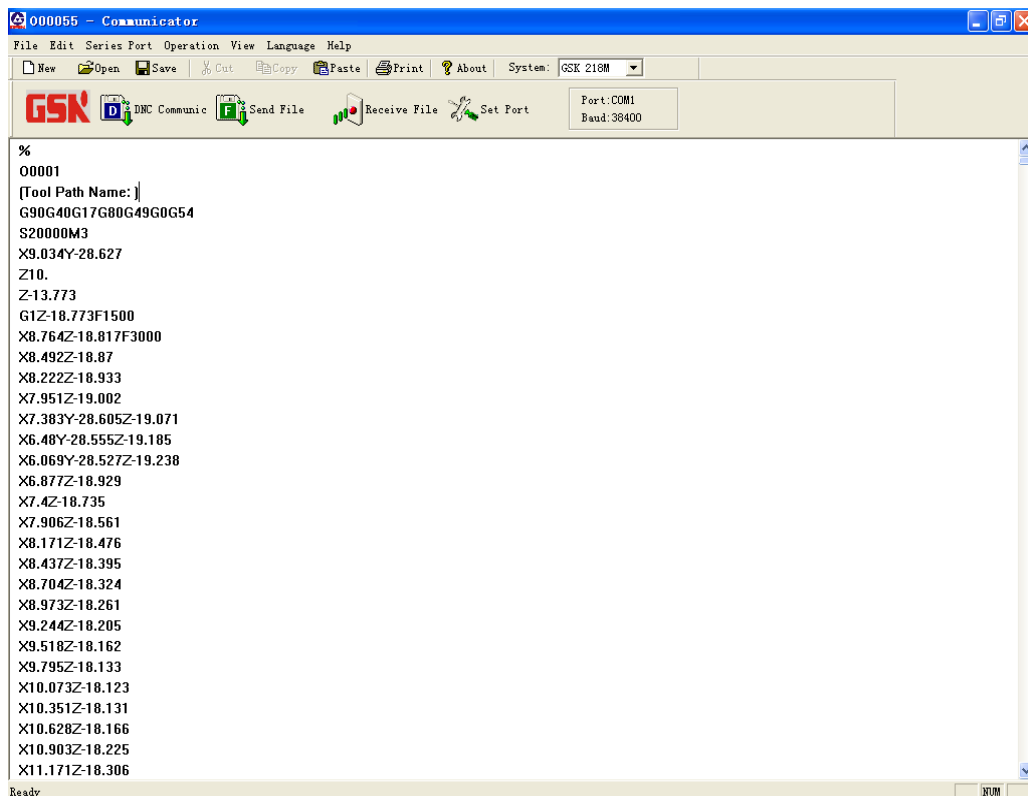

Fig. 11-1-4-1
3. Open the CNC program file. The program file can be opened by the “Open” button on the file menu or the  button on tool bar, refer to the Fig. 11-1-4-1 (Further edit the program file to the series port communication software).
4. DNC transmission. The data delivers by clicking the  on tool bar or the “DNC transmission” on the “Transmission mode” drop-down menu. When the system I/O channel sets to 0, PC directly delivers with PC common-use method; in this case, the DNC transmission dialog frame displays the state of file transmission, which includes the delivered file name, delivered byte, line number, and the transmission time and speed (type/second), refer to the Fig. 11-1-4-2. When the system I/O channel sets to 1, PC delivers based upon the data packet; in this case, the dialog frame displays the state of file transmission, which